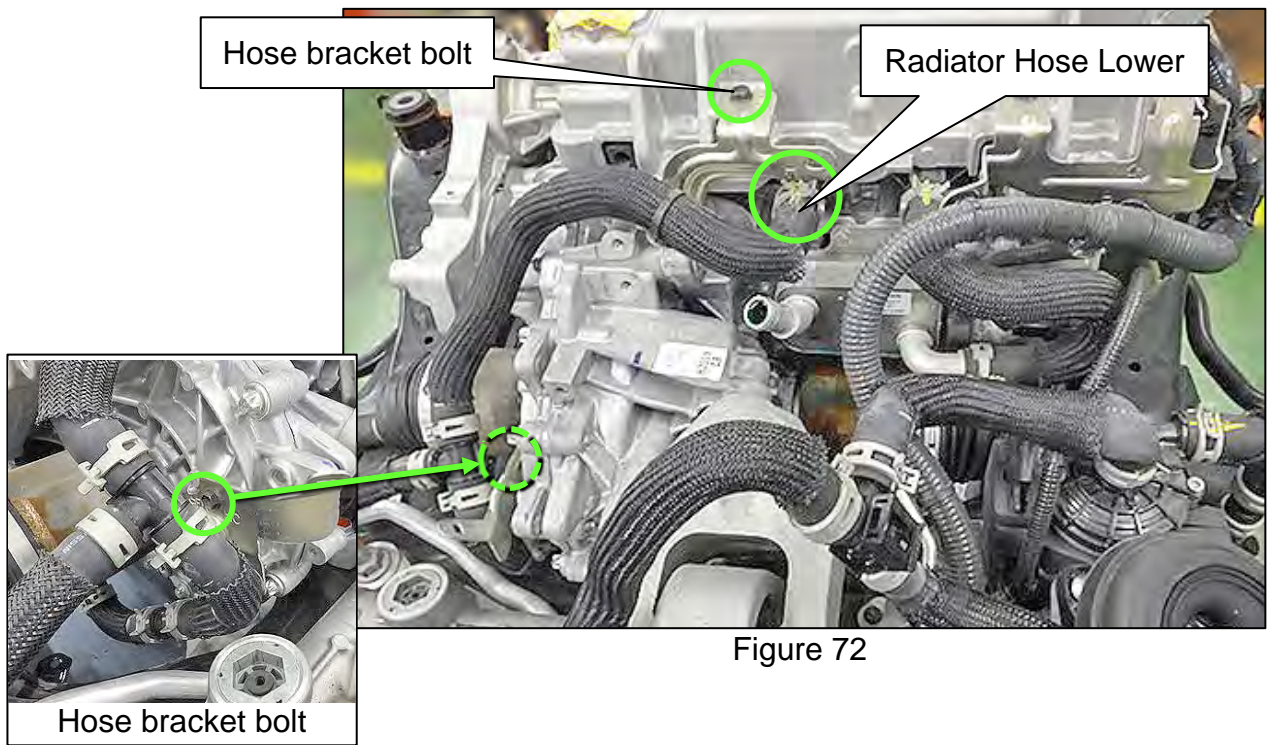

Figure 72
91. Unbolt the two (2) hose bracket bolts shown in Figure 72.